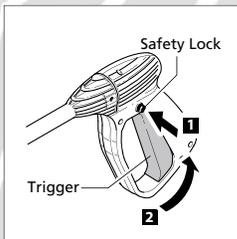

Fig. 4
- To lock the trigger of the spray gun aim the gun away from you and push the lock button from left to right, (Fig. 4) after doing so, squeeze or pull the trigger to make sure it is locked and will not move. Get in the habit of leaving the lock button in the "locked" position when the power washer is not in use. This ensures the gun is in "safe" mode until it is ready for use.
- While the spray gun is in the locked position, insert the adjustable lance or the detergent bottle directly into the end of the spray gun by inserting, pushing together and turning clockwise simultaneously (Fig. 5). To remove push together and turn counter clockwise. Push the safety lock button to lock the trigger when changing the lance or the detergent tank, to ensure that they do not accidentally eject with force during removal (Fig. 4).